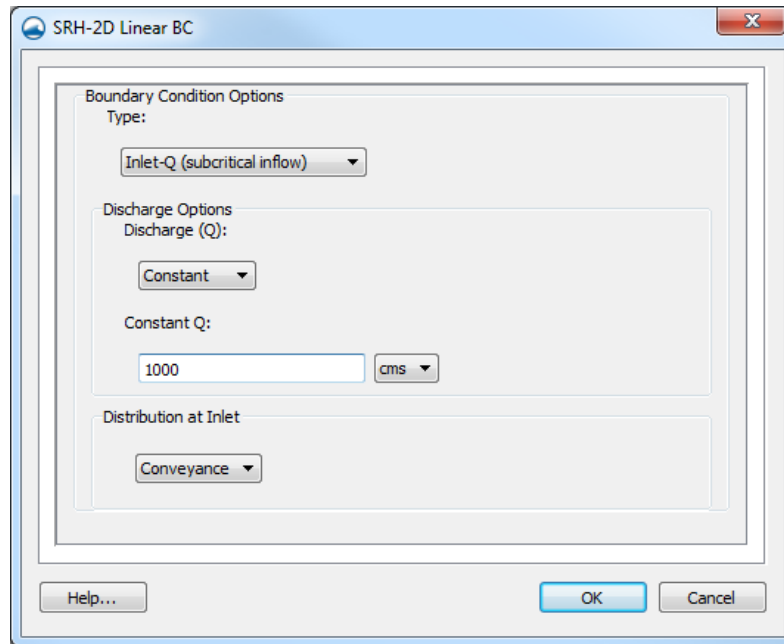

Figure 4 SRH-2D Linear BC dialog
3. Leave *Discharge (Q)* at “Constant”, change the *Constant Q* flow unit to “cms” and enter a value of “1000” m³/s for *Constant Q* as shown in Figure 4, below.